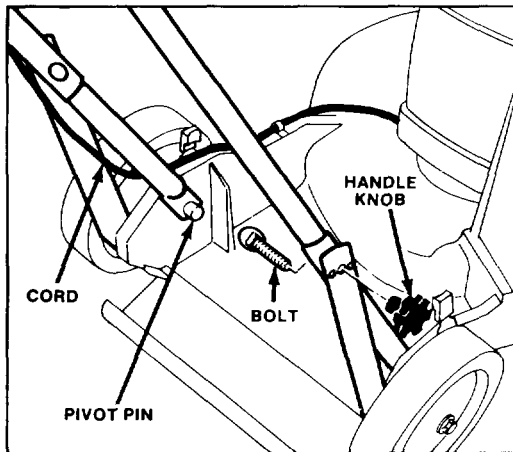

Figure 1
1. Push ends of lower handle together and install on pivot pins (Fig. 1). Insert bolts through hole in handle latches and install
handle knobs (Fig. 1). Tighten securely. Assure electric cord runs between handle and handle latch (Fig. 1).